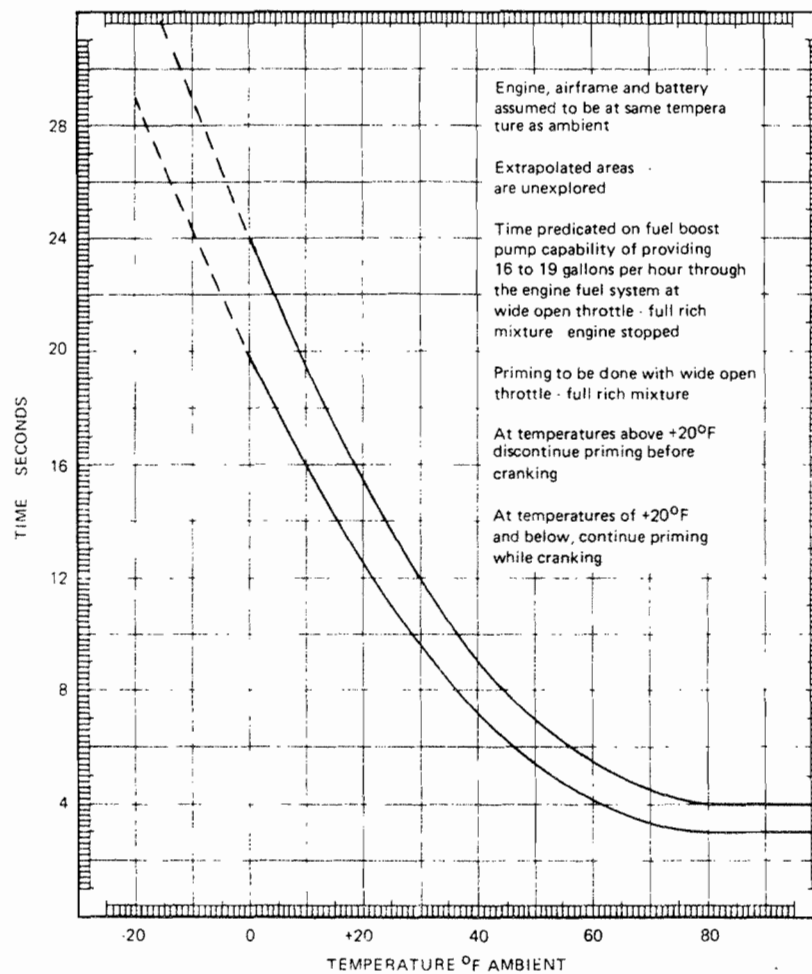

FIGURE 6-1. PRIMING TIME REQUIREMENT.
8. Primer - On. (See Figure 6-1 for Priming Time)